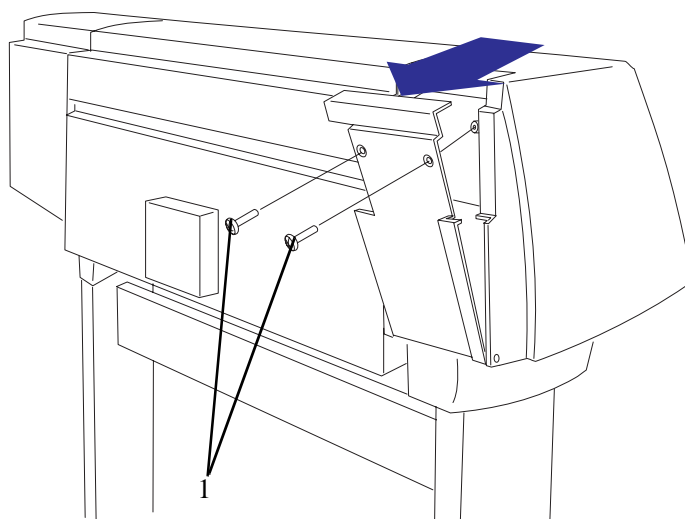

Figure 63: Rear Left Hand Cover
7. Open the door at the back of the left hand cover by removing two T15 screws (item 1) (refer to Figure 63).